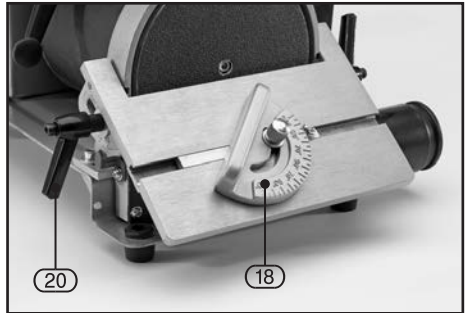

FIG.10
9.2 BELT AND DISC SANDING - FIG. 10